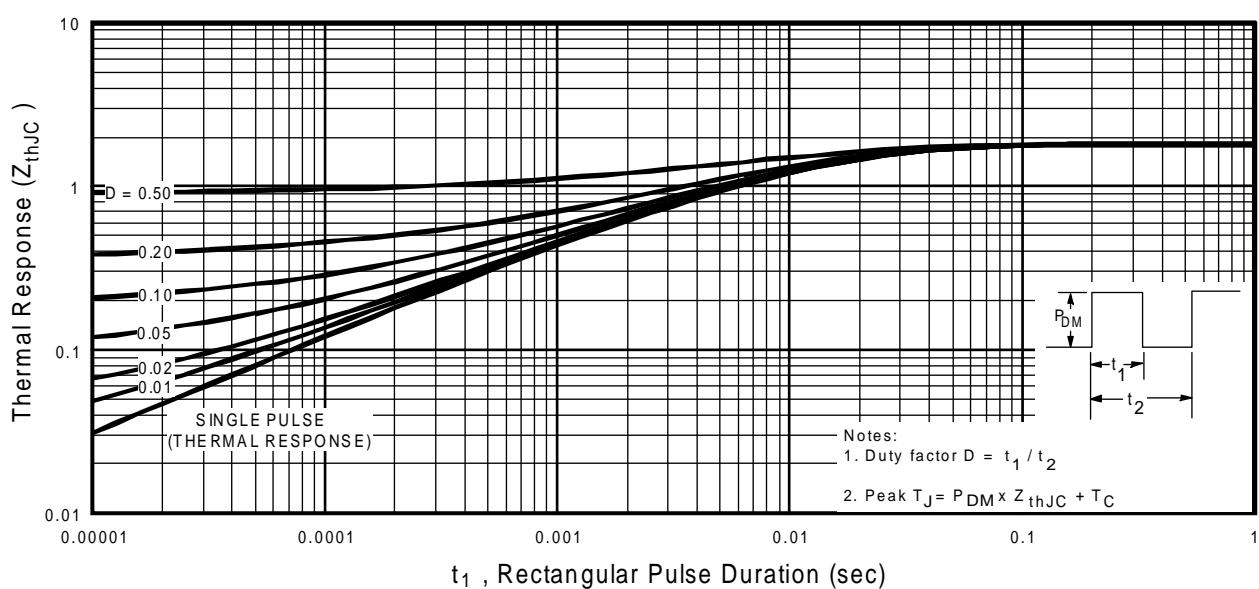

Fig 11. Maximum Effective Transient Thermal Impedance, Junction-to-Case
- ① Repetitive rating; pulse width limited by max. junction temperature. (See fig. 11)
- ② $V_{DD} = 15\text{V}$, starting $T_J = 25^\circ\text{C}$, $L = 300\mu\text{H}$